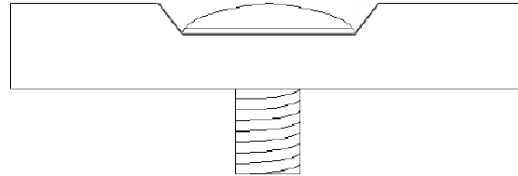

Figure 25 – Antenna Placement for High Traffic Areas
- When installing in a high traffic area, Neptune recommends that the dome of the antenna be recessed in the pit lid as shown in Figure 25.